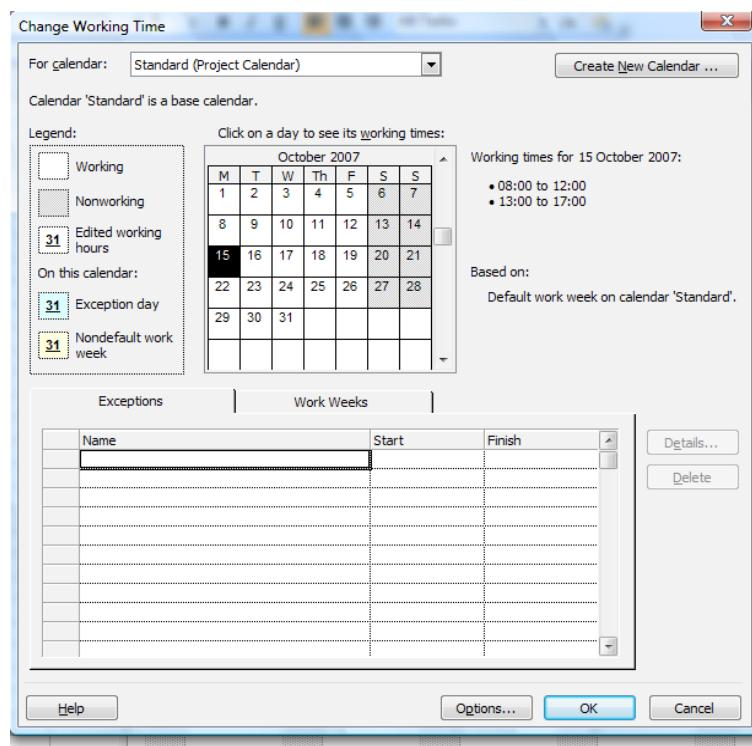

Figure 3-10: Project Calendar (Change Working Time)
- vii. On the exceptions tab (figure 3-10) select a row and click the details button and enter any exceptions to the rule (for example half day holidays. Or days when the project will run longer than normal due to site clearance etc) click ok to enter the exception.